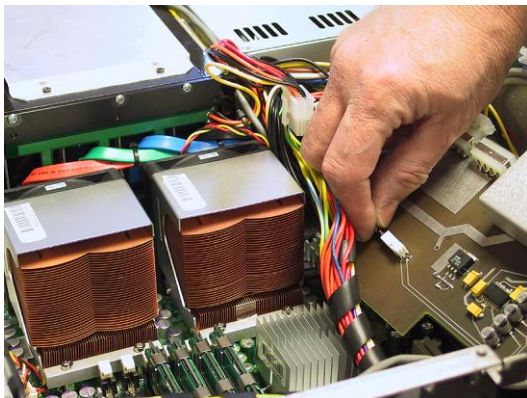

**Figure 4-61**
- 8) Gently remove the display power cable from the power distribution board (Figures 4-61 and 4-62) Cut all cable ties holding the cables to the aluminum cable guide bracket.